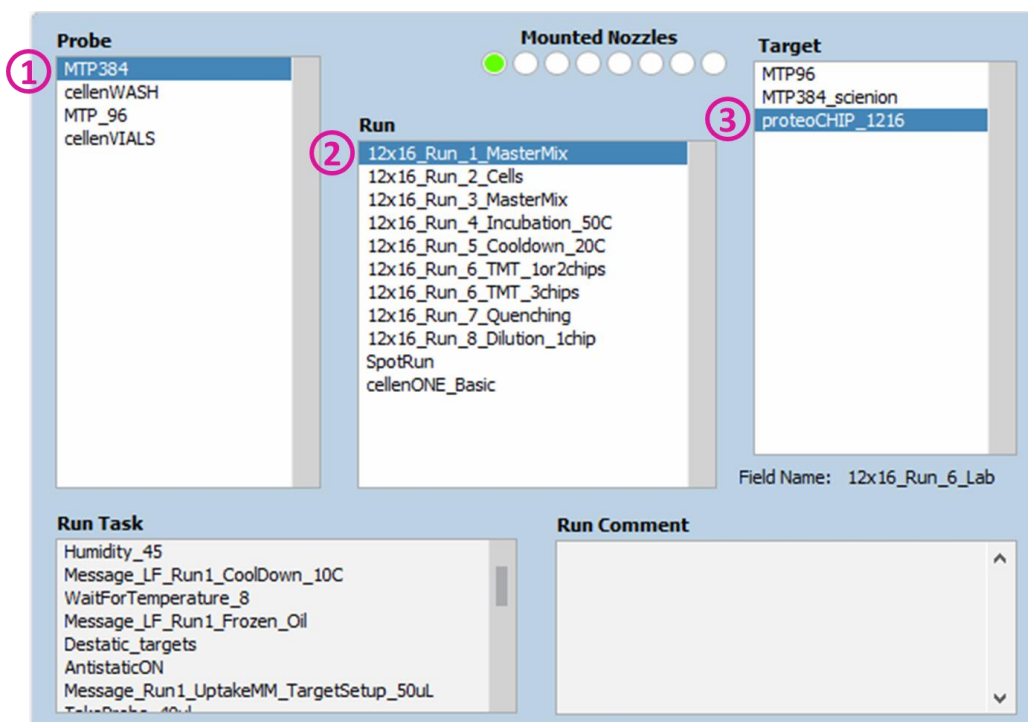

Figure 10: Master Mix run selection
- Probe: Select the “MTP384” (Figure 10 ①)
- Run: Select “12x16_Run_1_MasterMix” (Figure 10 ②).
- Target: Select “proteoCHIP_1216” (Figure 10 ③).